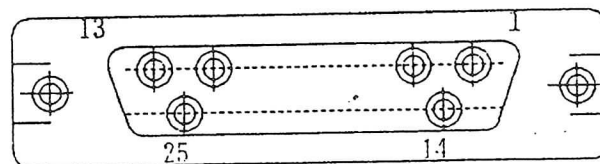

Fig. 10-1 Pin arrangement
- (1) Fig. 10-1 illustrates the pin arrangement of the RS-232C connector, and Table 10-1 lists the pin functions.